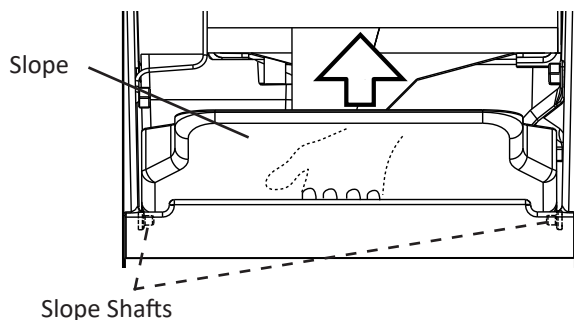

Fig. 40
- 2) Remove the slope from the ice storage bin by carefully bending it in the center and releasing it from the 2 slope shafts. See Fig. 40.